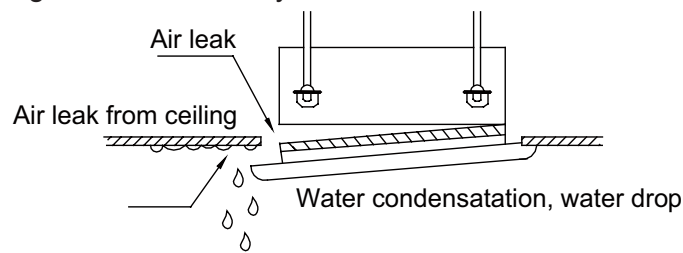

Fig. 5
①. Improper screwing of the screws may cause the troubles shown in Fig. 5.